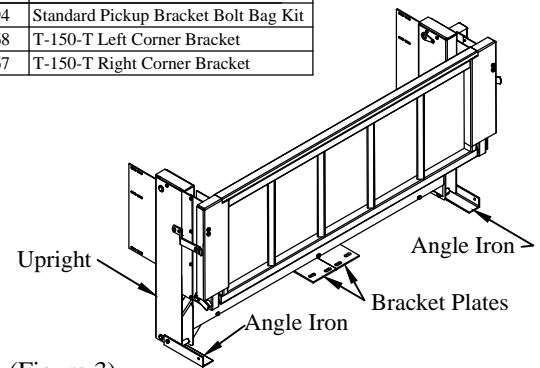

Figure 3: Complete liftgate (G² shown).
4. Unbolt and Save the two (2) angle irons attached to the liftgate uprights - **G² only** (Figure 3).
5. Remove and Save the two (2) bracket plates attached to the liftgate - **G² only** (Figure 3).